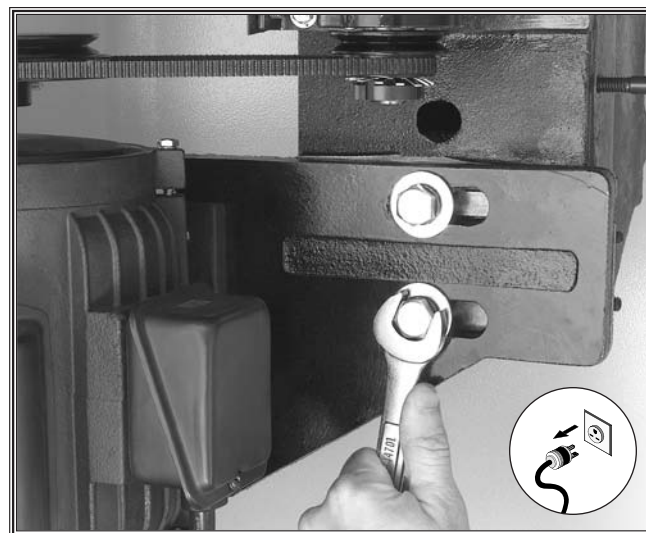

Figure 30. Loosening spindle slide bolts.
2. Loosen the two spindle slide bolts that hold the motor mount plate to the spindle slide as shown in **Figure 30**. **DO NOT** remove the bolts completely.